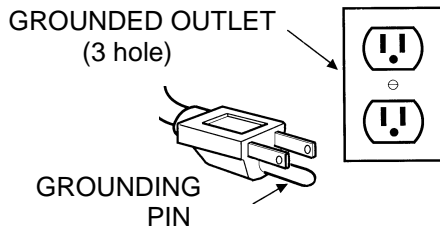

Fig. 3
5. Plug machine's power cord into grounded wall outlet on separate circuits (Figure 3). Green circuit indicator light on switch panel illuminated confirms connection to separate circuits.